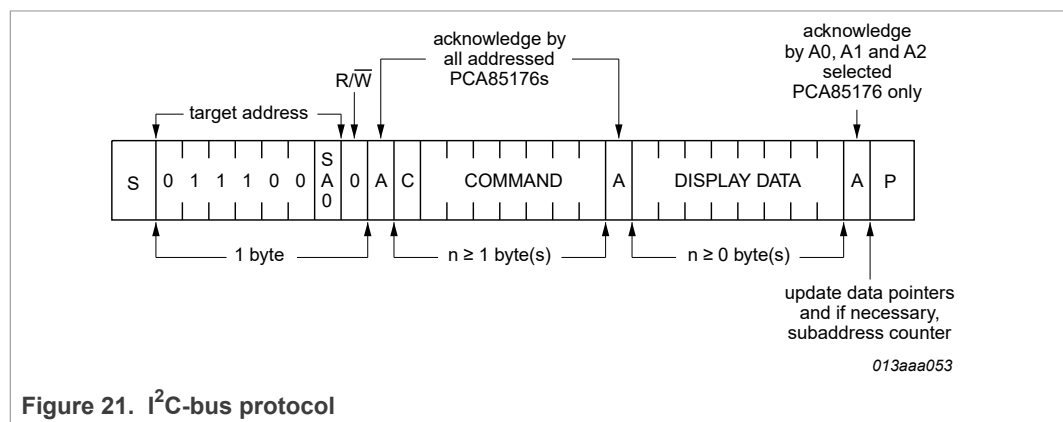

Figure 21. I2C-bus protocol
The I2C-bus protocol is shown in Figure 21. The sequence is initiated with a START condition (S) from the I2C-bus controller which is followed by one of the two possible PCA85176 target addresses available. All PCA85176 whose SA0 inputs correspond to bit 0 of the target address respond by asserting an acknowledge in parallel. This I2C-bus transfer is ignored by all PCA85176 whose SA0 inputs are set to the alternative level.